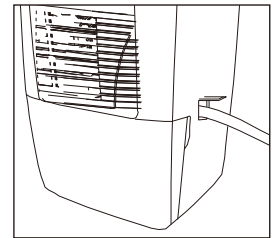

Fig.10c
- Place the bucket back in the unit and make sure that it is located correctly. (Fig. 10c)